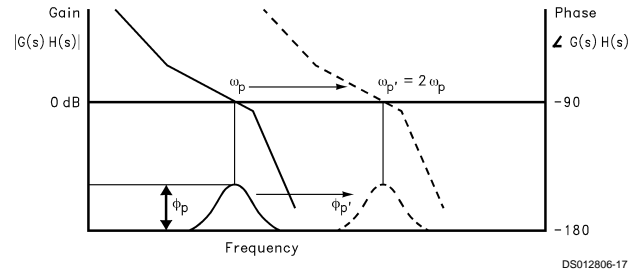

FIGURE 4. Open Loop Response Bode Plot
A plot of the magnitude and phase of $G(s)H(s)$ for a stable loop, is shown in *Figure 4* with a solid trace. The parameter ϕ_p shows the amount of phase margin that exists at the point the gain drops below zero (the cutoff frequency ω_p of the loop). In a critically damped system, the amount of phase margin would be approximately 45 degrees.
If we were now to redefine the cut off frequency, ω_p' , as double the frequency which gave us our original loop bandwidth, ω_p , the loop response time would be approximately halved. Because the filter attenuation at the comparison frequency also diminishes, the spurs would have increased by approximately 6 dB. In the proposed Fastlock scheme, the higher spur levels and wider loop filter conditions would exist only during the initial lock-on phase—just long enough to reap the benefits of locking faster. The objective would be to open up the loop bandwidth but not introduce any additional complications or compromises related to our original design criteria. We would ideally like to momentarily shift the curve of *Figure 4* over to a different cutoff frequency, illustrated by the dotted line, without affecting the relative open loop gain and phase relationships. To maintain the same gain/phase relationship at twice the original cutoff frequency, other terms in the gain and phase *Equation (4)* and *Equation (5)* will have to compensate by the corresponding “ $1/\omega$ ” or “ $1/\omega^{2n}$ ” factor. Examination of equations *Equations (2)*, *(3)* and *Equation (5)* indicates the damping resistor variable $R2$ could be chosen to compensate the “ ω ” terms for the phase margin. This implies that another resistor of equal value to $R2$ will need to be switched in parallel with $R2$ during the initial lock period. We must also insure that the magnitude of the open loop gain, $H(s)G(s)$ is equal to zero at $\omega_p' = 2\omega_p$. K_{VCO} , K_ϕ , N , or the net product of these terms can be changed by a factor of 4, to counteract the ω^2 term present in the denominator of *Equation (2)* and *Equation (3)*. The K_ϕ term was chosen to complete the transformation because it can readily be switched